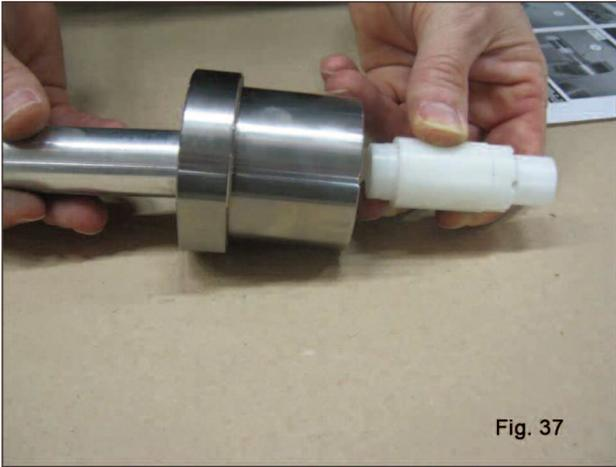

Fig. 37
- With separate HP seals support and a special pin (3, fig. 34) make the HP pack come out, pack (high pressure), 4, fig. 35, finally extract the head ring (fig. 36). The bushing for plunger, if replaced, is extracted from the liner with a special pin (fig. 37).